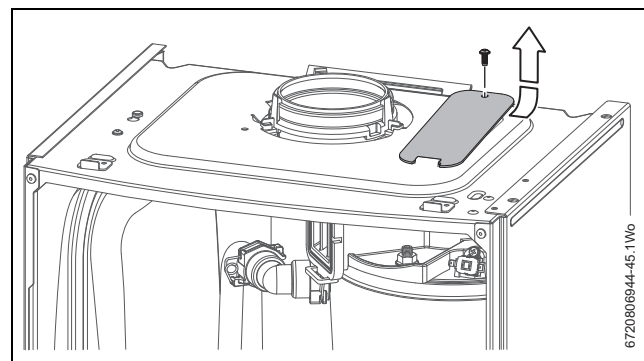

Fig. 67 Access cover plate removal
Refer to figure 67.
- ▶ Access the heat exchanger flue ways by inserting the cleaning brush (7 733 600 091) through the top access hole in the casing, removal of panel shown in figure 67.